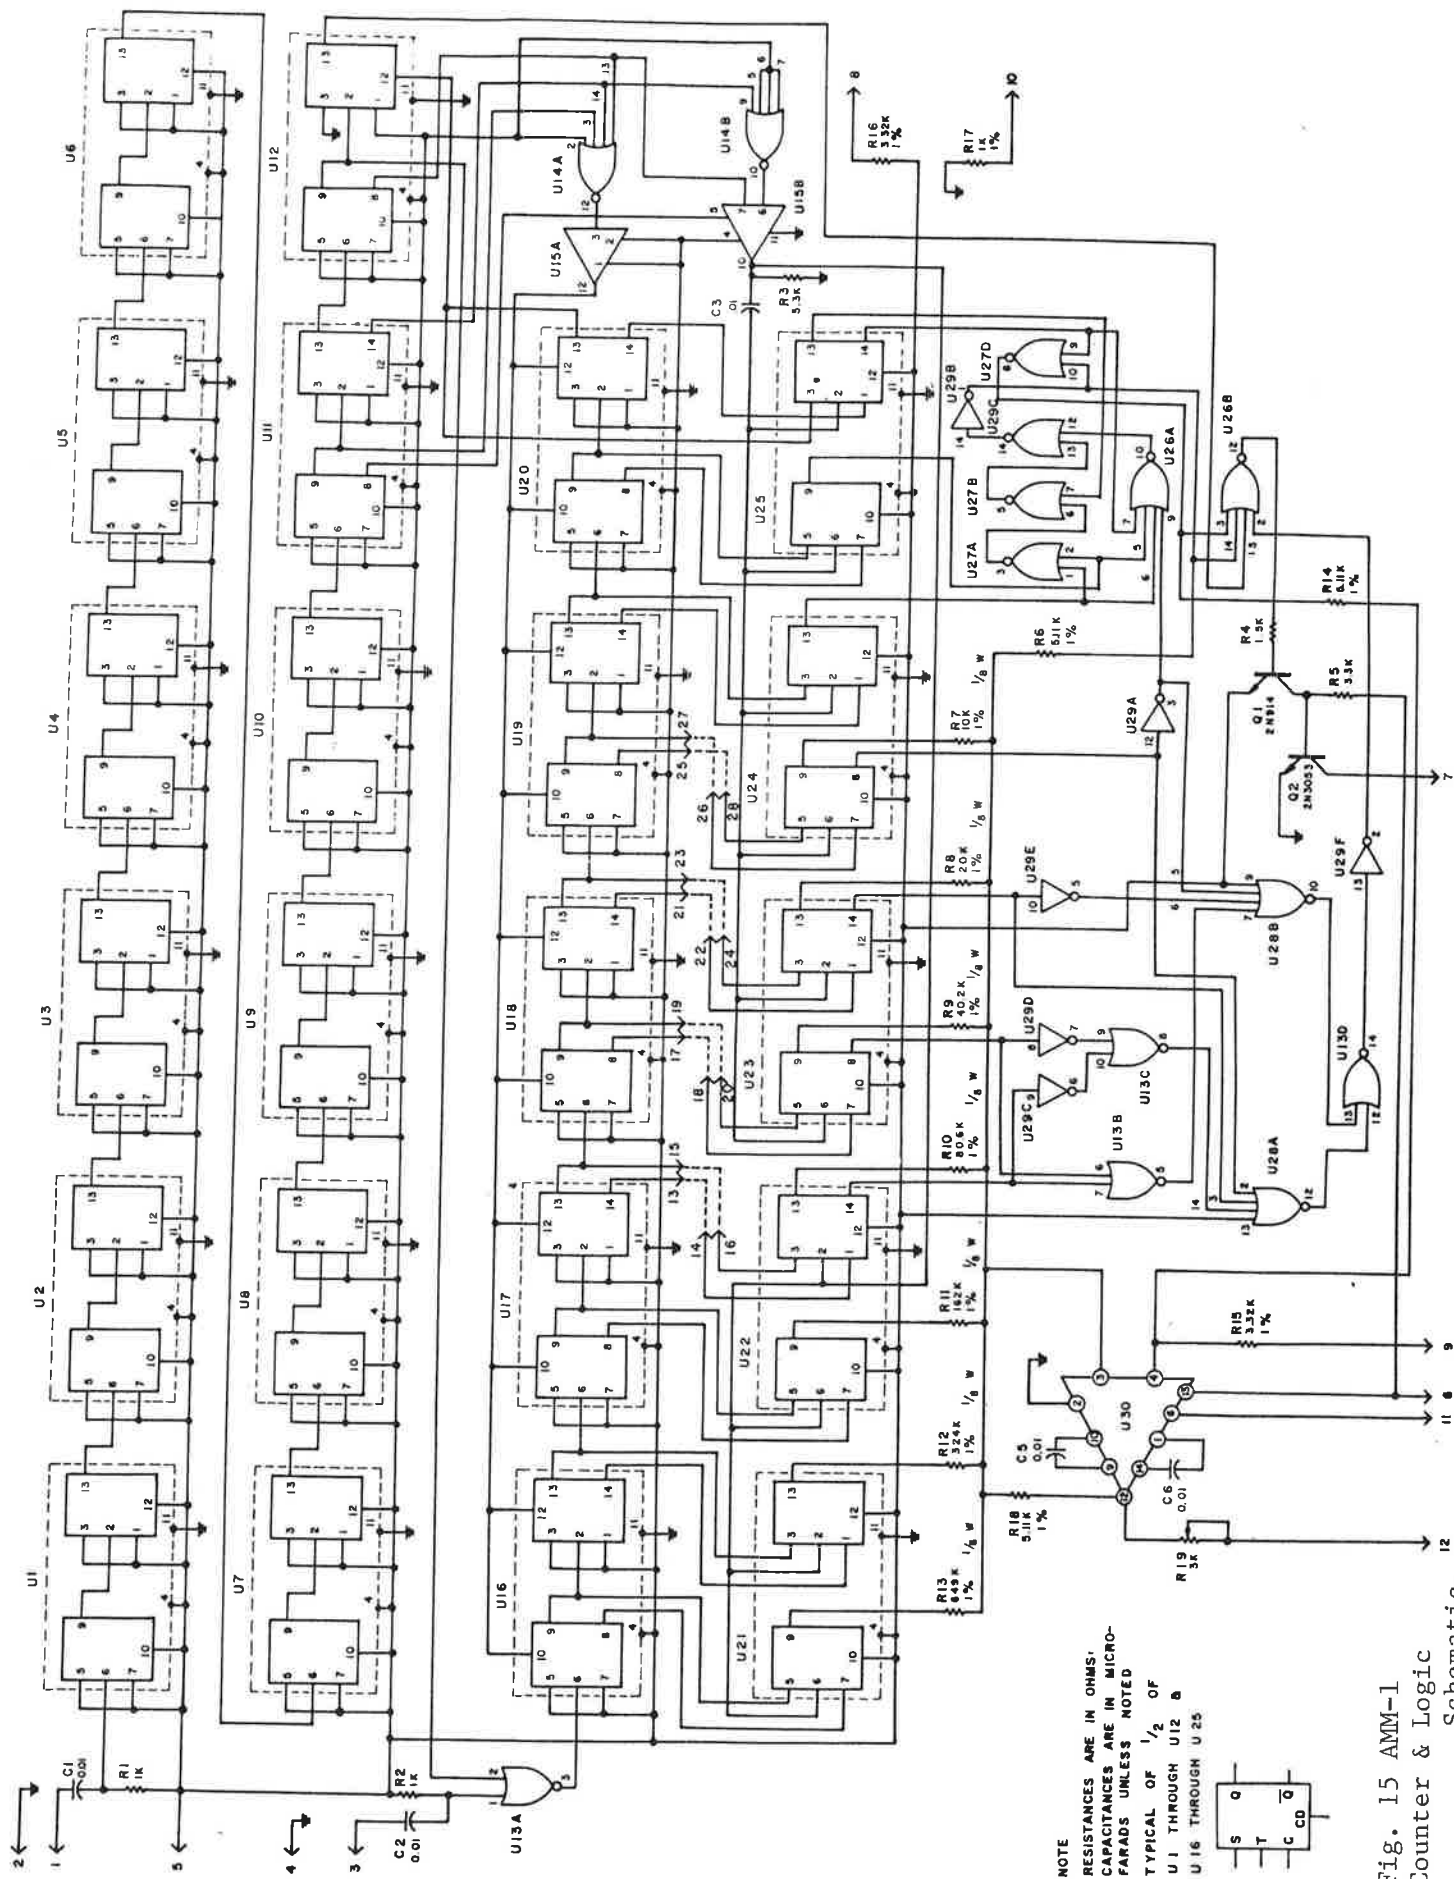

Fig. 15 ANM-1
a. If FREQUENCY DEVIATION meter indicates full-scale positive or negative, check overrange alarm by attaching a 1 K ohm resistor to rear panel TB1-1 and a milliammeter between free end of resistor and TB1-12. If a non-zero current (approximately 28 mA) is observed, check overrange logic on Counter and Logic Assembly (Fig. 15).
a. If plus and minus FREQUENCY DEVIATION meter indications are symmetrical but do not fall at ± 19.5 Hz when the -19.5 Hz and +19.5 Hz self-check switches are operated, adjust R19 (Fig. 15) to obtain correct (39 Hz) span.